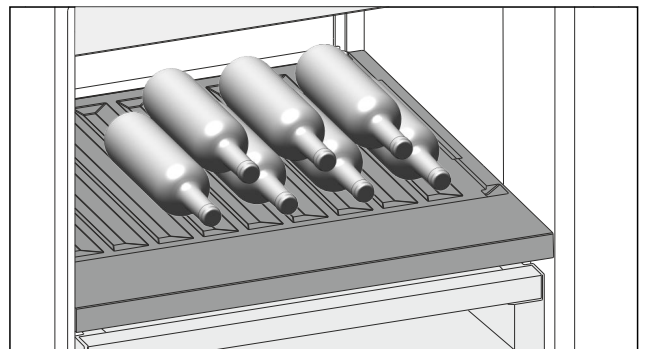

Fig. 103 Example illustration
- Place bottles in the back row with their bases against the back wall. (see Fig. 103)